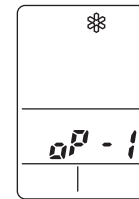

Fig. 59b
- d) ✱ appears and “oP-1” blinking in the remote controller clock display area. (Fig. 59b)